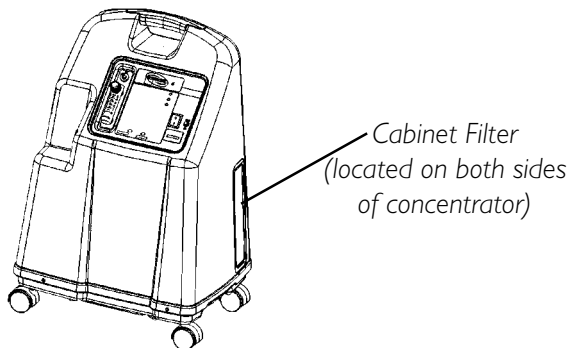

FIGURE 9 - CABINET FILTER LOCATION
NOTE: There are two (2) cabinet filters. One (1) is located on each side of the cabinet (FIGURE 9).